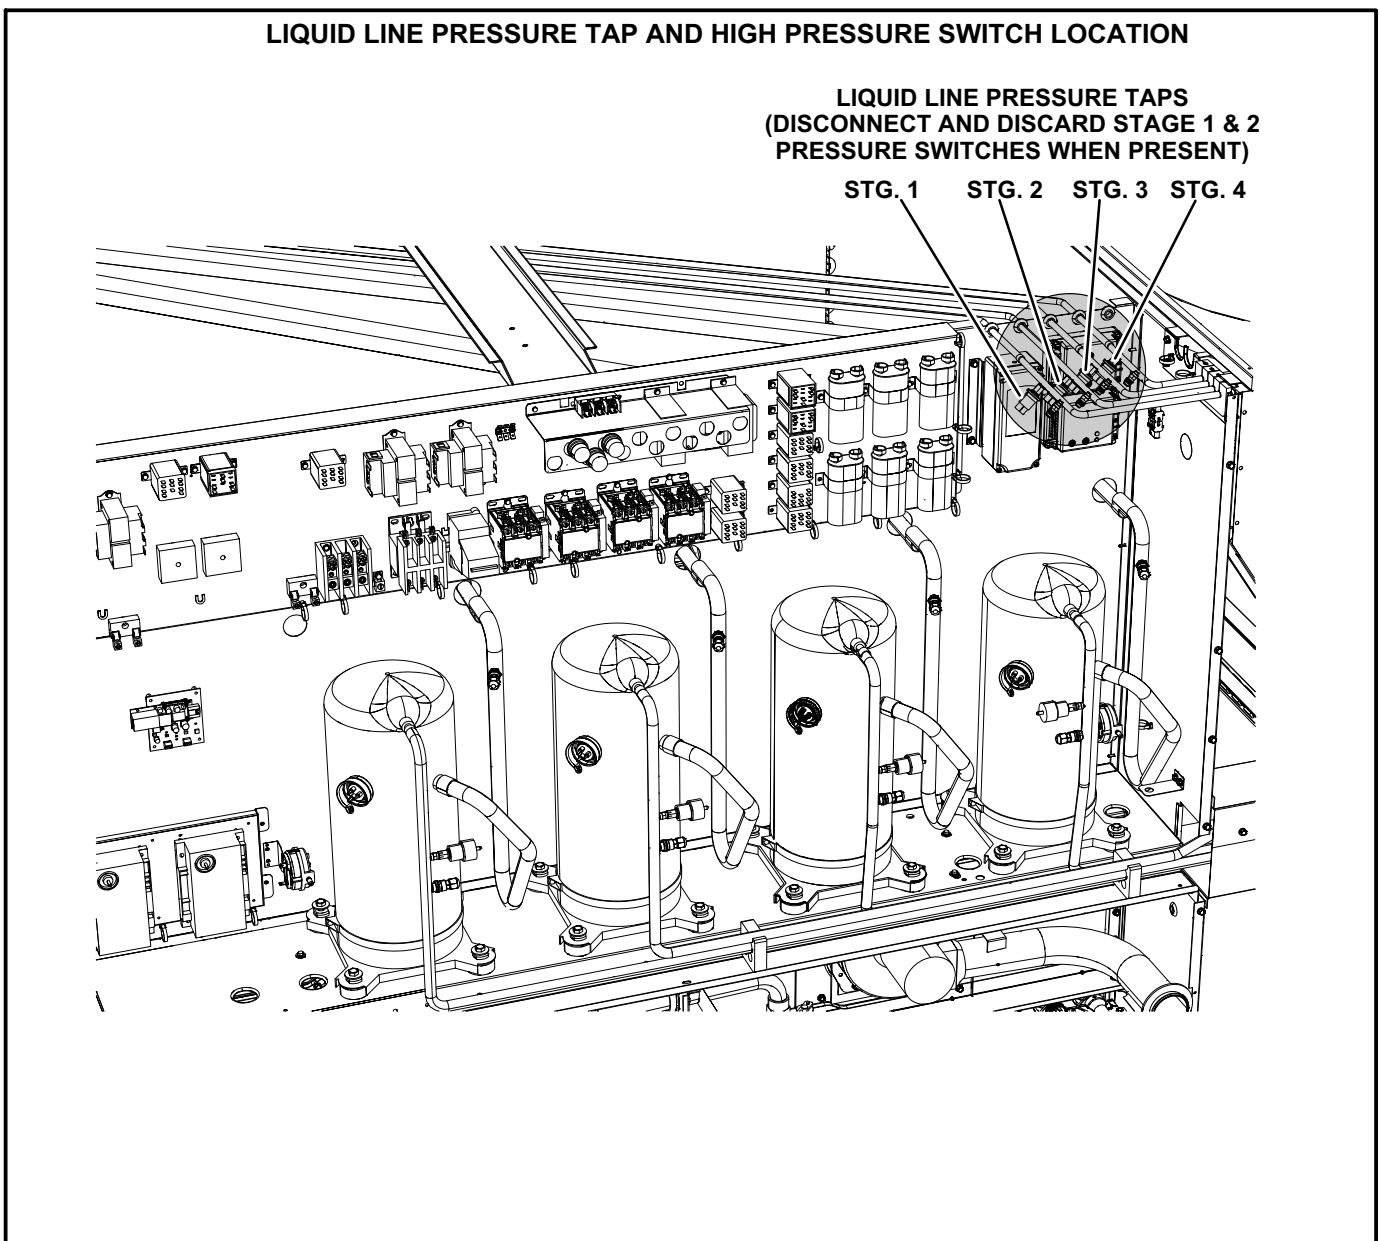

FIGURE 2
- 5- If present, disconnect and discard low pressure switches from liquid line. See figure 2.
Disconnect and discard the existing high pressure switches. Install pressure switches provided in this kit. See figure 2.